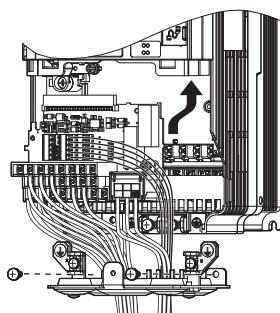

Figure 85 Drive Replacement: Installing the Terminal Board
1. Once the main circuit has been wired, connect the terminal block to the drive as shown in Figure 85. Use the installation screw to fasten the terminal block into place.